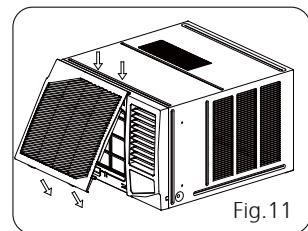

Fig.11
2. Hang the front panel on the frame's buckle, then press the front panel into the frame's slot until you hear a click (see Fig.11).